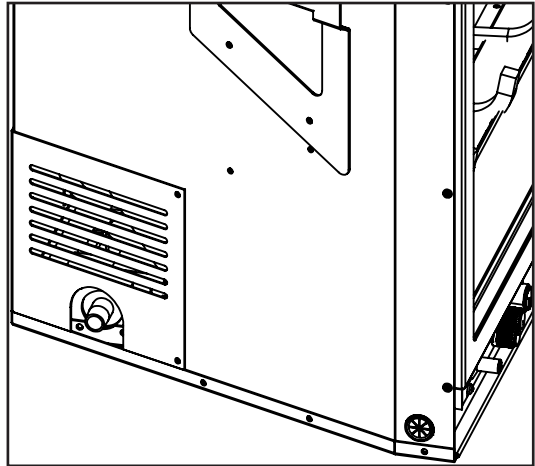

Figure 31: Gas Connection Location.
- A 3/8" 45° flared fitting and flex connector are supplied with the unit (see Figures 31 and 32). Consult the local authorities for local codes or use the CAN/CGA B149 (1 or 2) installation code in Canada. In the US, gas installations follow either local codes or the current edition of the National Fuel Gas Code ANSI Z223.1.